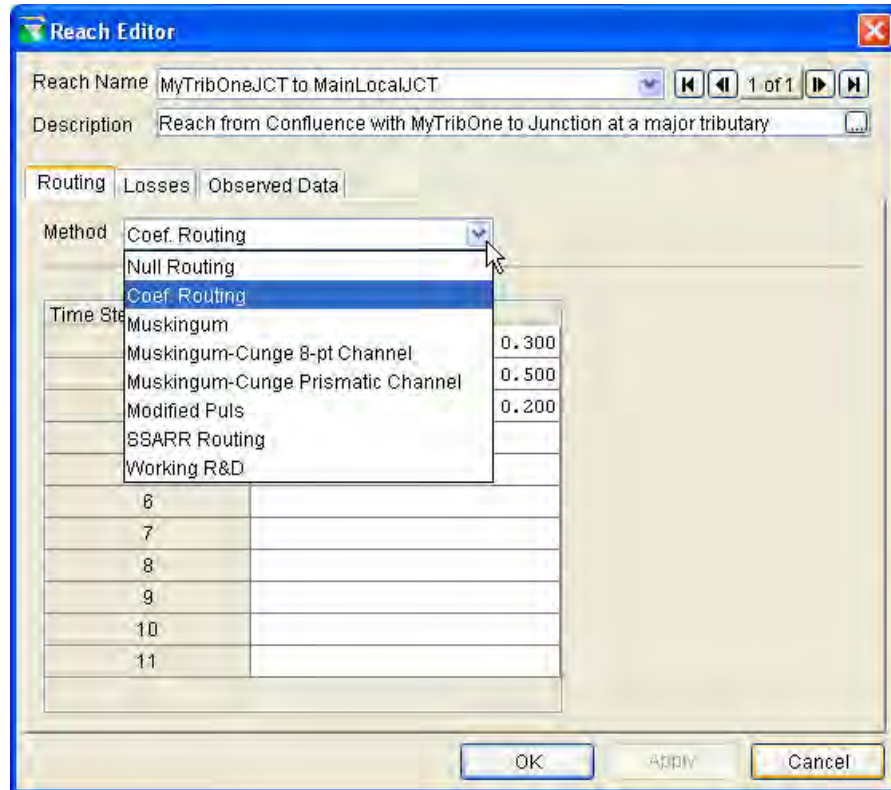

Figure 18 – Reach Editor
- **Edit Reach Properties.** With the reach tool  or the pointer tool  selected, right-click on the desired reach and select **Edit Reach Properties**. Select the routing method from the **Method** list (as shown in Figure 18) and fill in the necessary parameters for the selected routing method. The default routing method is **Null Routing** (no route).